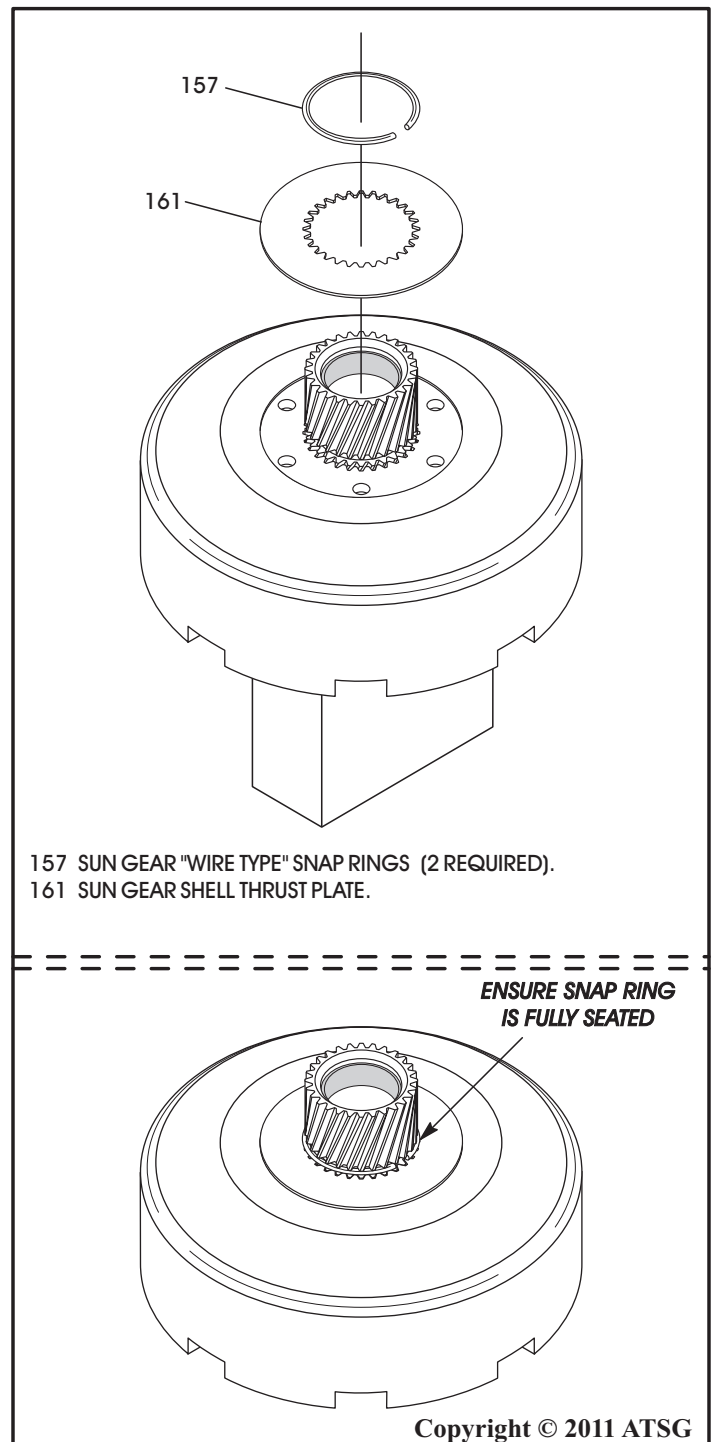

Figure 139
13. Turn the assembly over and set sun gear on a short block of wood, as shown in Figure 139, to hold the sun gear in place for assembling the thrust plate and snap ring on back side.
14. Install sun gear shell thrust plate, as shown in Figure 139.
15. Install the second wire type snap ring, as shown in Figure 139, and ensure it is fully seated.